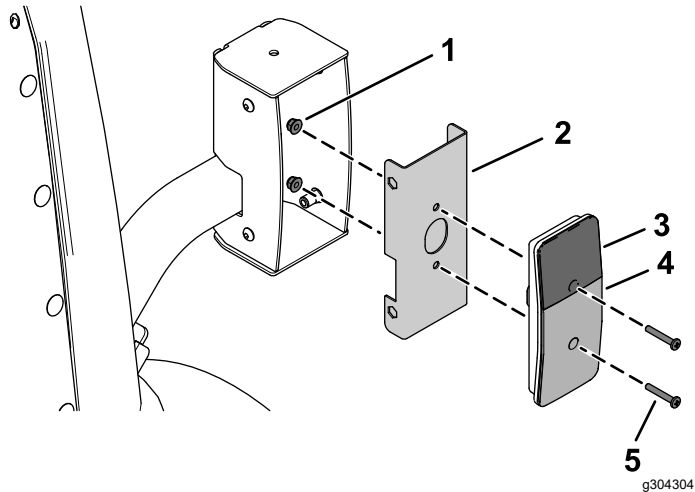
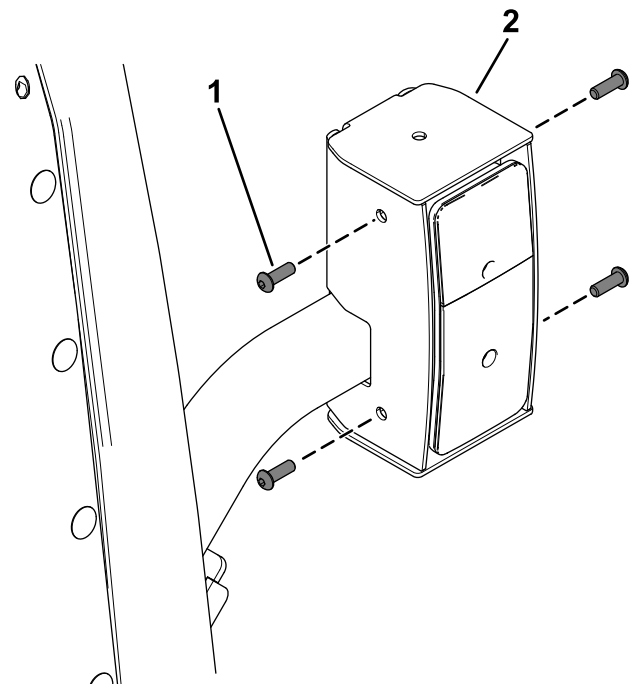

Figure 30
Figure 31
- Secure the taillights to the inner mount assemblies using 4 pan-head screws (#10 x 1-1/4 inches) and 4 flange nuts (#10) as shown in Figure 30.
- Secure the assembled taillights to the taillight housings using 8 button-head bolts (1/4 x 3/4 inch) as shown in Figure 31.
Ensure that you install the taillights with the yellow lens on top (Figure 30 and Figure 31).